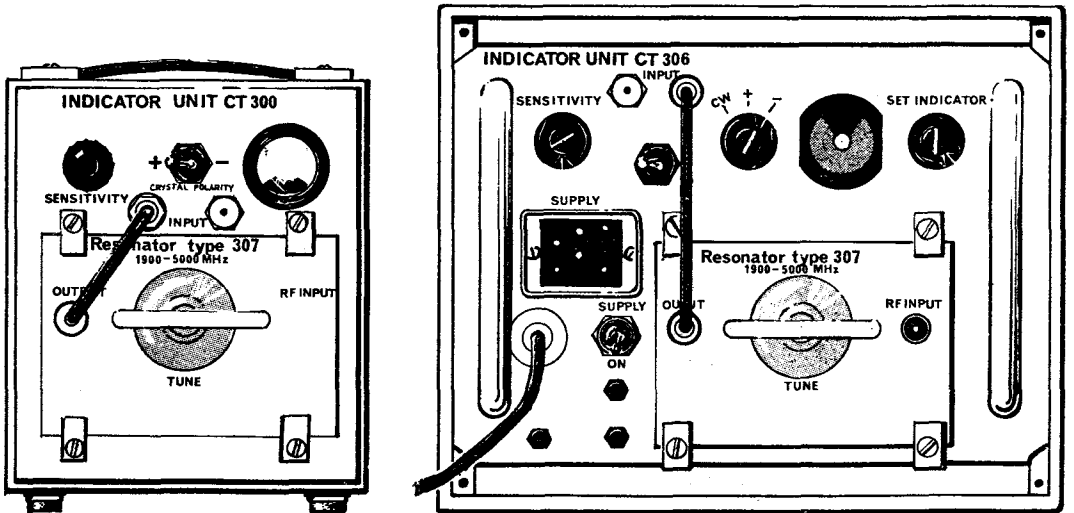

Fig. 6. Indicators CT300 and CT306
20. **Indicator (meter) CT300—indicator (magic eye) CT306.** These indicators form absorption wavemeters by the addition of one of fifteen available resonator units. These resonators cover the band 18MHz to 40GHz in fifteen ranges e.g. the resonator CT307 shown in figure 6 covers from 1900MHz to 5000MHz. The indicator CT300 contains a microammeter to indicate resonance and requires no external power supplies, thus making it very convenient for first line use in the field. Indicator CT306 contains an amplifier and magic eye resonance indicator and is more sensitive than the CT300, it requires a power supply to drive the amplifier but will operate from any normally available a.c. supply (80V–1600Hz, 115V–400Hz or 1600Hz, or 250V mains). Care should be taken to check the supply voltage selector before use as accidental misconnection will damage the instrument.